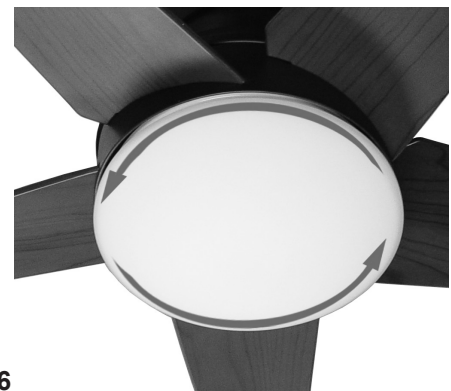

Figure 16
Step 5b. Carefully lift the glass globe up inside the light fixture as far as it will go. Rotate the shade in a counter clockwise direction as shown in Figure 16, until the glass globe is held tightly in place by the three tabs.